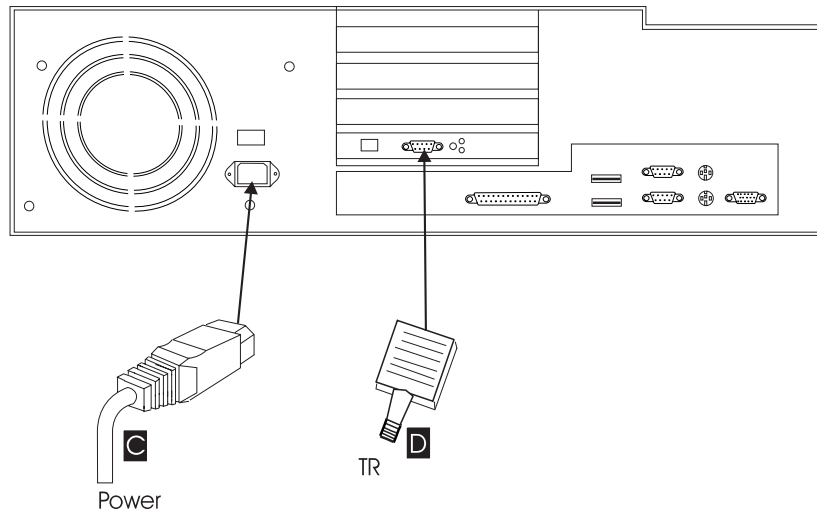

Figure 9. Network Node Processor Cables Connection
- 2. From the rear panel of the Network Node Processor, reconnect the Power cord and the LAN cable refer to Figure 9 on page 15 and Figure 8 on page 11 to connect the NNP to the ac outlet distribution box.